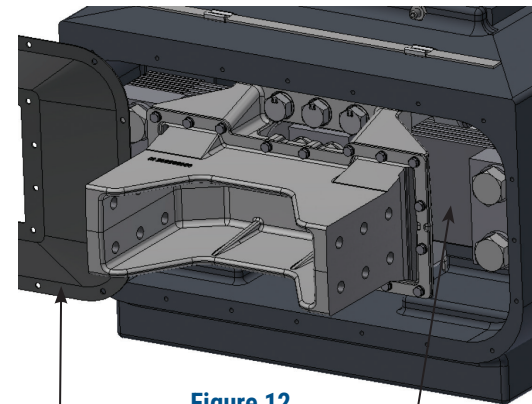

Figure 12
1. Remove diaphragm clamps and rubber diaphragm from front of unit. (**Parts 7, 8 & 9**) (See **Figure 12**)